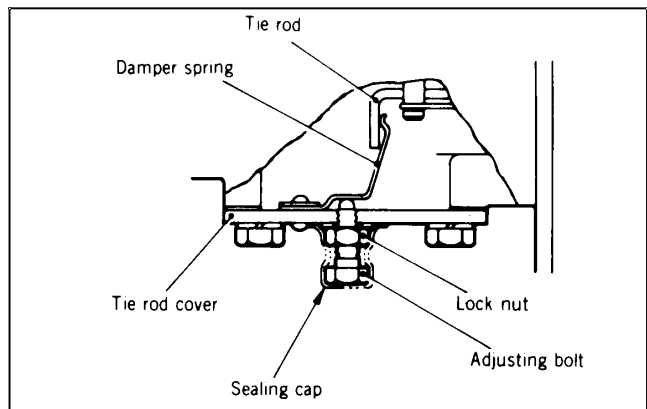

Figure 14
NOTE: This engine is equipped with a special damper spring (Fig. 14) which is designed to prevent engine stalling when the throttle decelerated quickly. Adjustment of this spring is required when adjusting the engine rpm.
3. Remove sealing cap from damper spring adjusting bolt (Fig. 14) and loosen adjusting bolt to remove damper spring tension. **NOTE:** If tie rod cover was removed, make sure governor tie rod has been pushed to the high speed position before cover is installed.